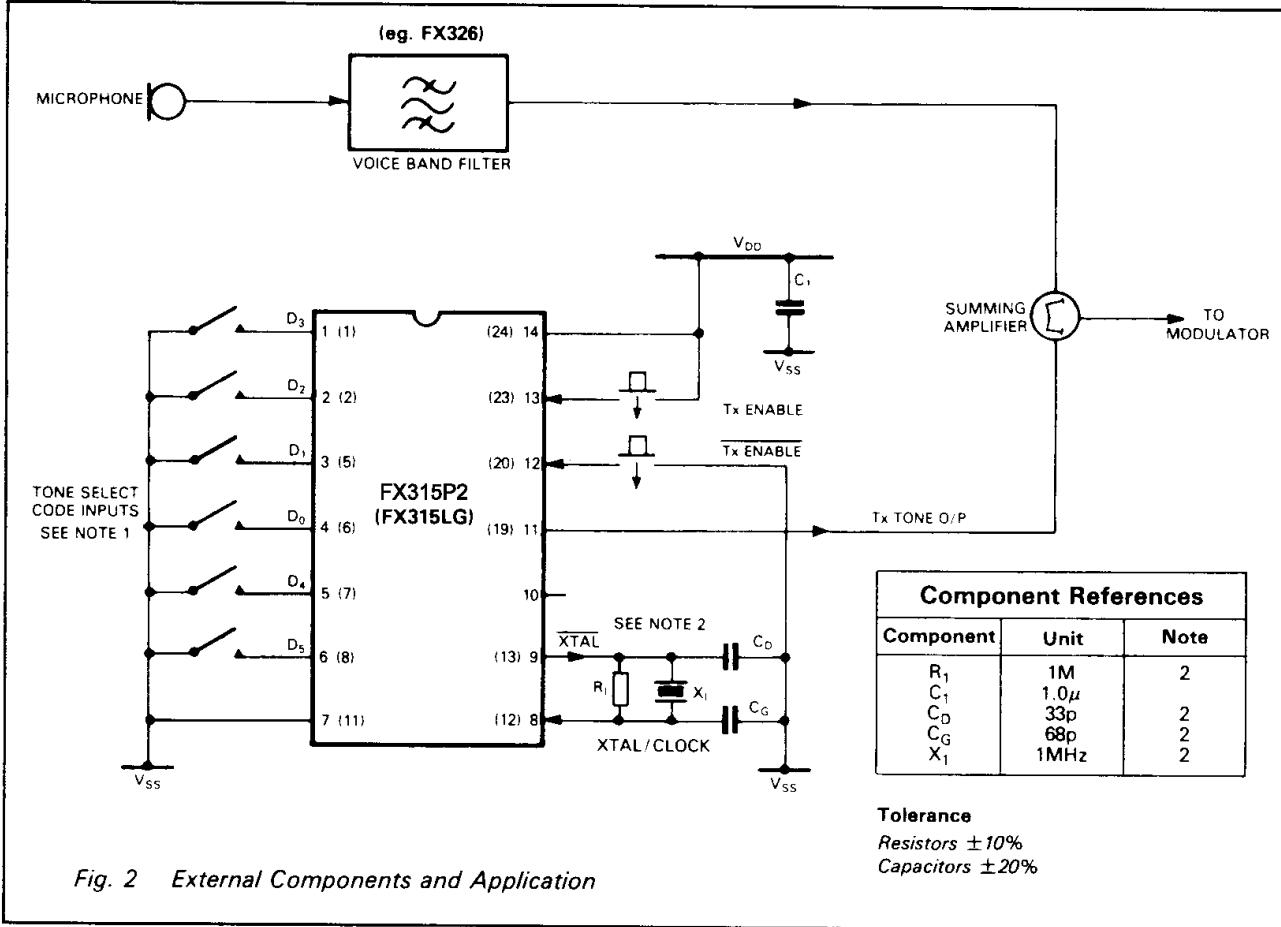

Fig. 2 External Components and Application
2. X_1 is a parallel resonant crystal. A reference frequency of $1 \text{ MHz} \pm 0.19\%$ is required to maintain a tone accuracy within $\pm 0.5\%$. Crystal circuitry shown in Figure 2 is in accordance with CML Application Note D/XT/1 April 1986. Where two or more circuits are required to use a single oscillator (eg. repeater applications), the signal at XTAL can be used to drive one additional Xtal/Clock input. Any further circuits can be driven from the buffered XTAL output of the second device.
The performance of a CTCSS system can be degraded if speech frequencies in the signalling spectrum are not removed prior to transmission. This can be achieved by filtering the microphone signals to attenuate frequencies below 250Hz. Figure 2 illustrates adding the Tx Tone Output to the filtered microphone signals prior to modulation.